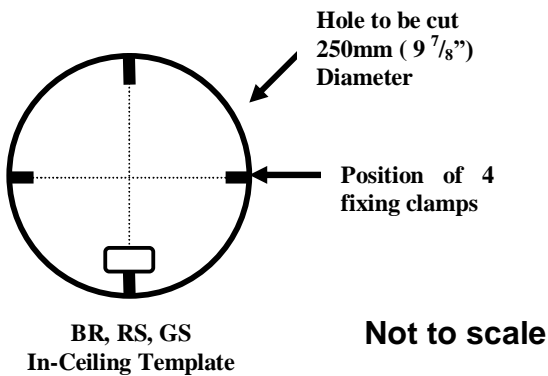
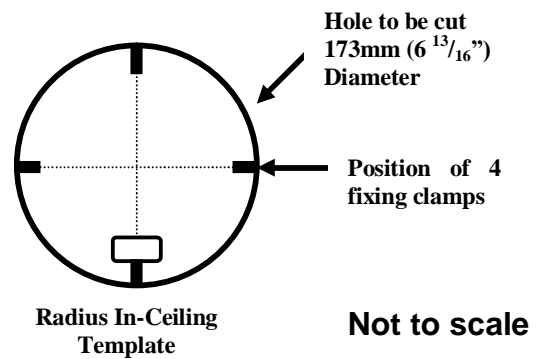

Fig 1
Fig 2
1. Use template to locate position of cut out. Fig 1 for BR, RS & GS In-Ceiling Products and Fig 2 for Radius In-Ceiling products. The adhesive backing allows for repositioning a number of times.